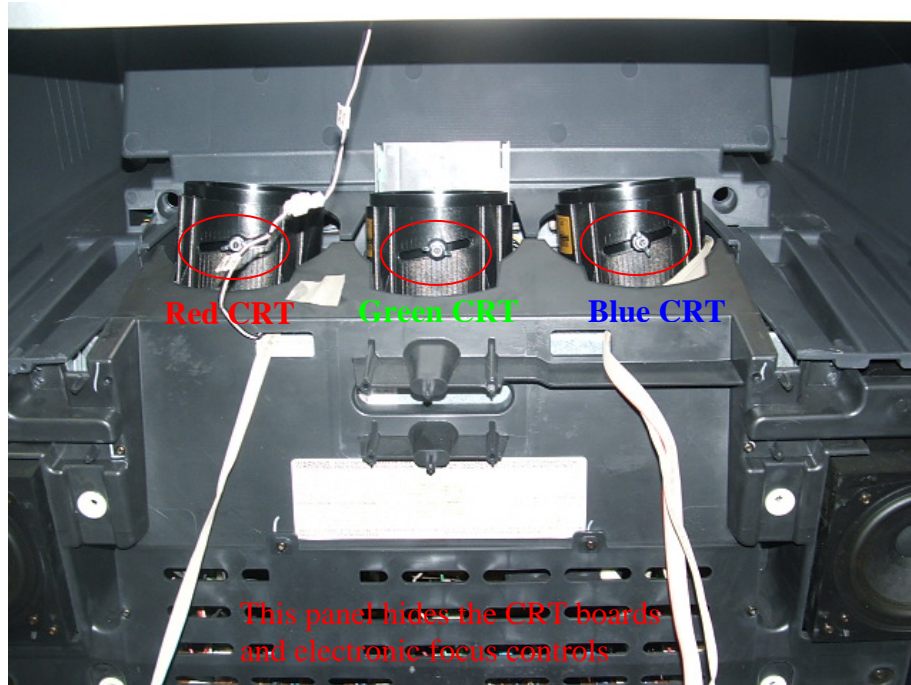

Figure 2: Recess exposed when power/channel/volume panel is removed. Wing nuts for manual focusing are circled in red.
- 7) Figure 2 shows the recess with the lens assemblies which is exposed when you remove the power/channel/volume panel. Use a soft cloth to dust off the lenses. Cover the red CRT with a cloth/towel.
- 9) If the focus is not acceptable, then loosen the wing nut on the lens assembly as shown in figure 2, and rotate the assembly for a better focus. Then repeat step 8.